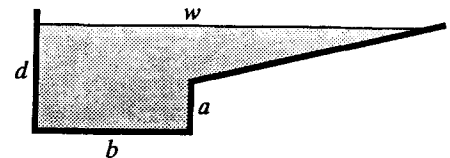

Figure X10.3.6
10.3.6 For the channel cross section of Fig. X10.3.6, $a = 1 \text{ m}$, $b = 3 \text{ m}$, $d = 2 \text{ m}$, $w = 8 \text{ m}$, and $n = 0.015$. What bed slope is required so that the flow will be $16 \text{ m}^3/\text{s}$ when the depth of flow is 1.50 m ?